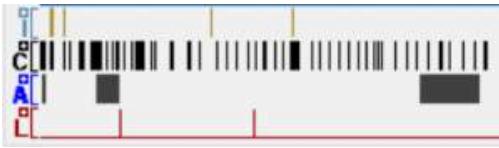

Figure 22: Four annotation tracks in the Collapsed view.
- Locate the small square above the annotation track initial on the left side of the track (as seen in Figure 22) containing either a "+" or a "-". Click this to either expand or collapse the track.